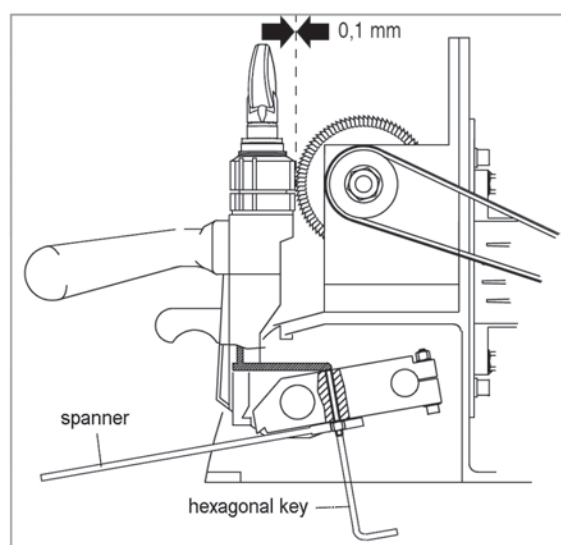

Fig. 44
- 1) Release the carriage, raise against the cutting tool and take to the end of its run (Fig. 44).
- 3) Release the nut with the spanner (Fig. 44).